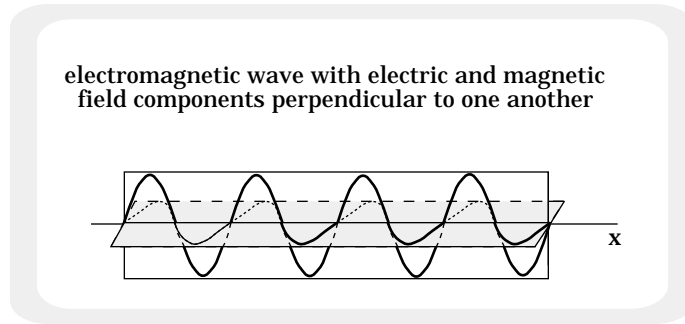

FIGURE 21.11
a.) If sensors are spread out to record the intensity and direction of the electromagnetic wave at various places at a particular instant, the electric and magnetic field variations will look like the graph shown in Figure 21.11.